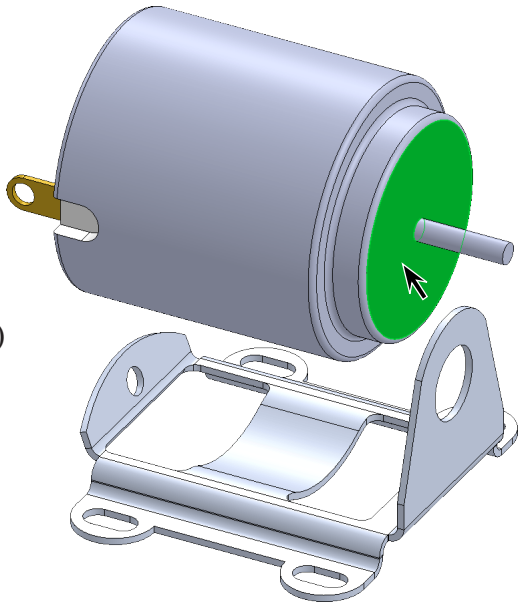

Fig. 3
Step 2. Click **side face of Motor**, Fig. 3.